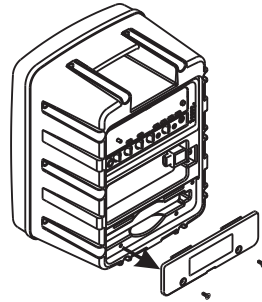

Fig. 31
- (B) Remove the battery compartment cover, Fig. 31.